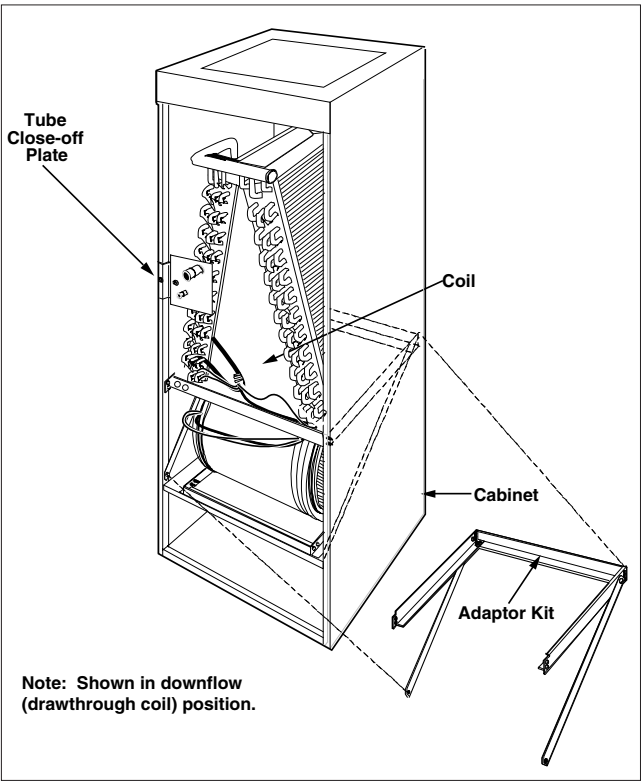

Figure 1. Location of Major Components
2. Unfold and install the adaptor kit, using the screws provided, as shown in **Figure 1**. Holes for mounting the downflow adaptor kit are provided in the air handler.
3. Replace the indoor coil assembly and secure the tube close-off plate to the cabinet. (**See Figure 1**)